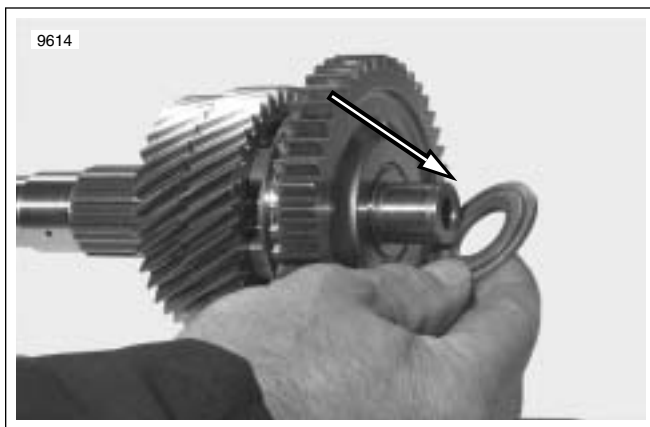

Figure 7-24. Thrust Washer
7. See Figure 7-24. Check position of stepped thrust washer. Step should face 1st gear, flat side toward bearing.